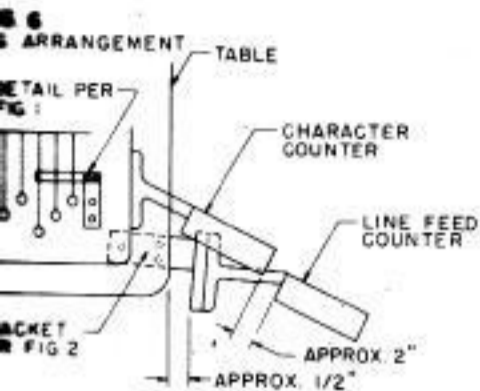
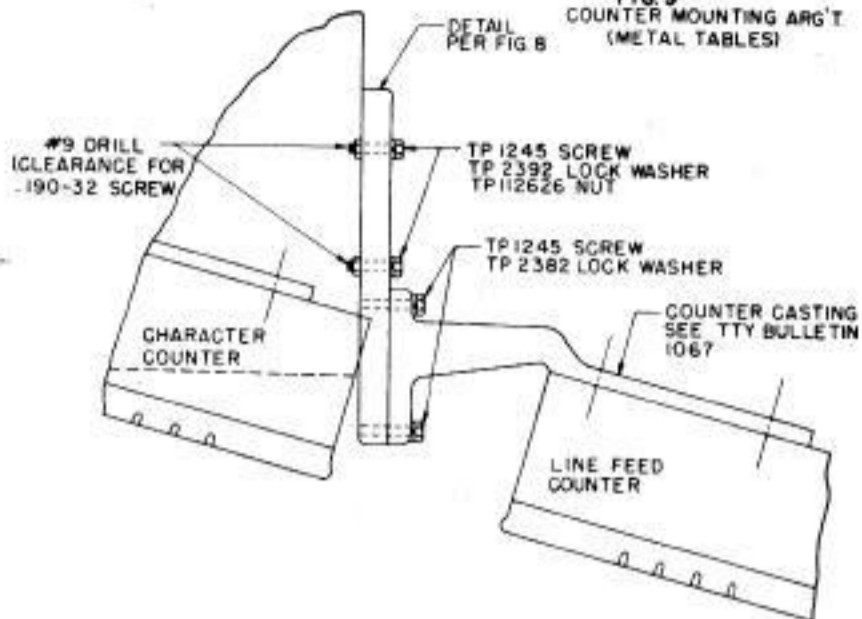

FIG. 7
FIG. 10
- 4.05 For 19A tables, attach the two 12F connecting blocks to the outer surface of the bracket using TP6346 screws per Figure 7; for metal tables, use P-405647 (No. 8-1" self tapping) screws per Figure 10.
4.11 To connect the 551A key (push button), remove the center cover screw which permits removal of the cover and exposes the contact terminals and mounting holes. Locate about $\frac{1}{2}$ inch below table top as shown in Figure 10.
4.12 When using a 19A table, bore a 1 inch hole in the upper right-hand corner of the table panel, as shown in Figure 7, to accommodate the plug for the wires from teletypewriter Terminals 24 and 25.